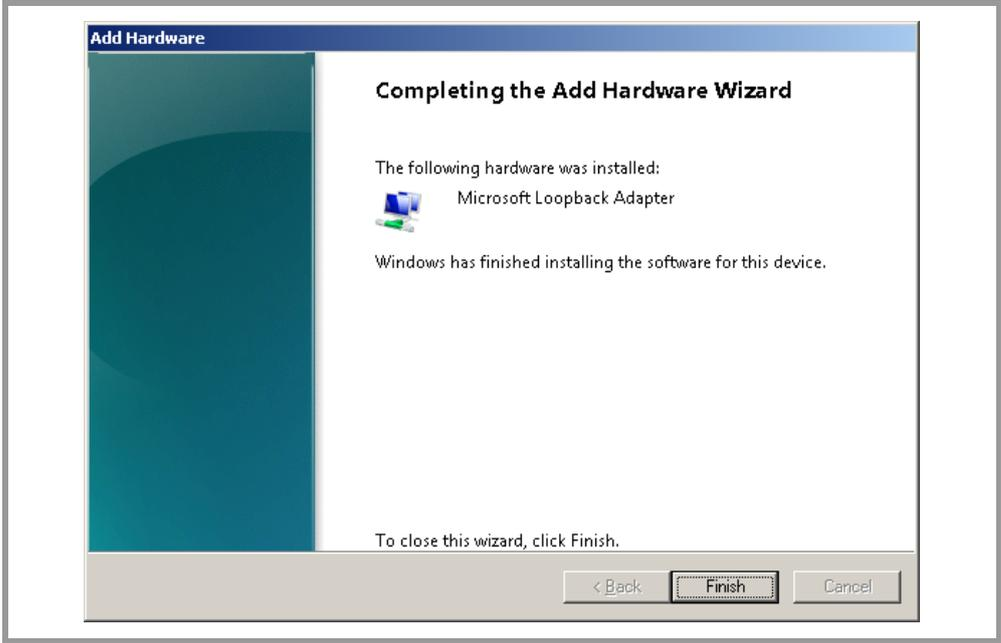

Fig. 5 Dialog confirming successful Loopback Adapter installation
- 6. After successful installation the dialog as shown in Fig. 5 is displayed. Press the “Finish” button to close the installation wizard.